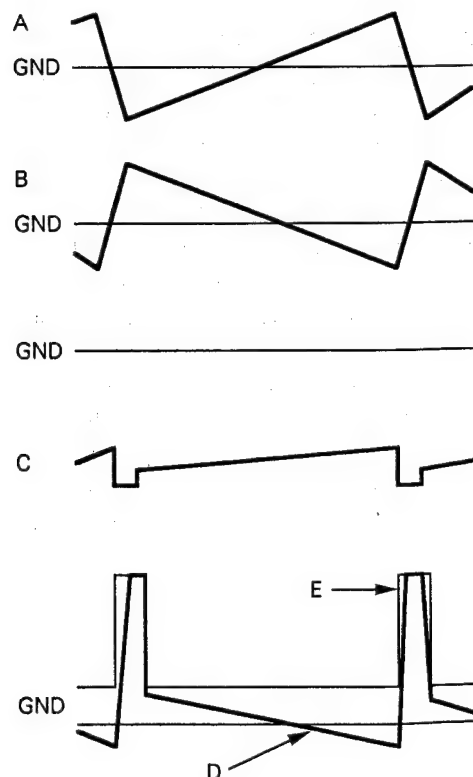
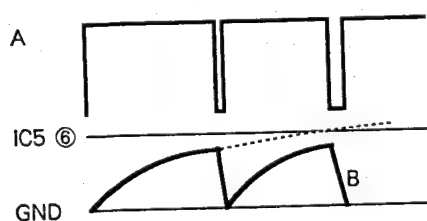

Fig. 1
Fig. 2
1) V. OUT---consists of μ PC4558 and μ PC1498. As it is common to all 3 channels, here the G - ch will be explained. A V. OUT waveform is input into pin ③ of connector DC - 2 from the DB board.(Fig. 1 A). Although this is input into pin ③ of IC5, since pin ② of IC5 is a GND, a waveform similar to the one shown in B (Fig. 1) is feedback and pin ③ of IC5 becomes a GND.
Any voltage error that exists between pins ② and ③ of IC5 will be output from pin ① of IC5 (Fig. 1 C) and is received by pin ④ of IC6. The output is through pin ② and a electric current like the one shown in B (Fig. 2) flows. As a result a voltage waveform similar to D (Fig. 1) is generated. E (Fig. 1) is the pulse power supply, and is created by μ PC1498 which detects the erroneous portion of the pulse of the input waveform C (Fig. 1) and by accumulating D5 and D10.
- 2) V. STOP PROT...Slice the pulse at the output (pin ② of IC6) V. OUT. If C14 does not exist, the waveform of collector Q2 will be a pulse waveform such as in A (Fig. 2). Practically - speaking, it will be integrated by C14 and become a saw wave like the one in B (Fig. 2). If an abnormality is encountered in V. deflection, as shown in D (Fig. 1), the pulse voltage will disappear and the Q2 collector will attach to +B. When this happens, C14 gradually gets charged as shown by the dotted points in B (Fig. 2) and exceeds the pin ⑥ IC5 which is the comparing voltage, causing pin ⑦ of IC5 to become H, Q4 to turn ON, and Q5 to turn OFF. This is the V. STOP mode.